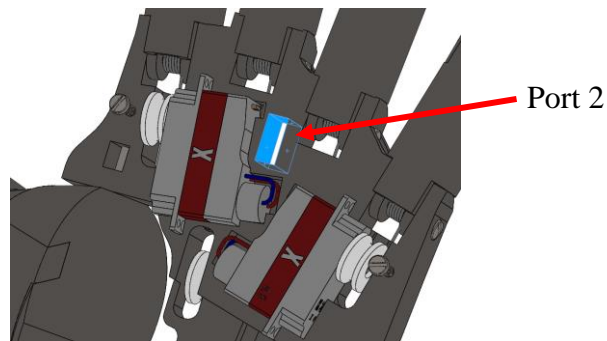

Figure 30: Port 2 – Wire routing
3. Servo 6 wire will go through port 2 of the palm frame on the dorsal side, and the female connector will stay inside this port (see **Figure 30** below).